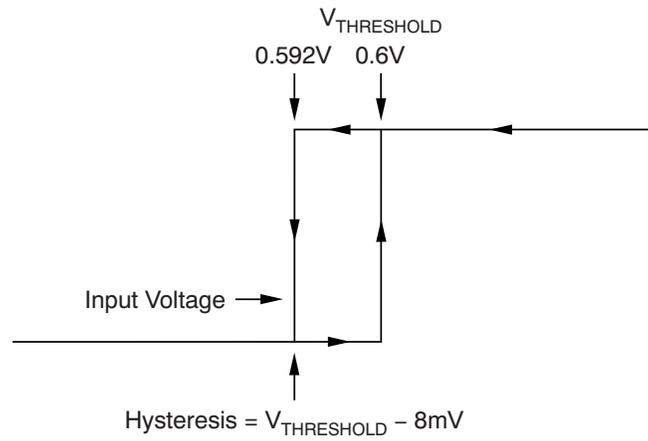

图 1. Typical Comparator Hysteresis
- (1) Hysteresis refers to the threshold (the threshold specification applies to a rising edge of a noninverting input) of a falling edge on the noninverting input of the comparator; refer to Figure 1.
- (2) Specified by design.
- (3) V_{ID} refers to the differential voltage at the comparator inputs.
- (4) Open-drain output can be pulled to the range of 2.7 to 18 V, regardless of V_S .
- (5) The comparator response time specified is the interval between the input step function and the instant when the output crosses 1.4 V.
- (6) The $\overline{\text{RESET}}$ input has an internal $2\text{ M}\Omega$ (typical) pull-down. Leaving $\overline{\text{RESET}}$ open results in a LOW state, with transparent comparator operation.